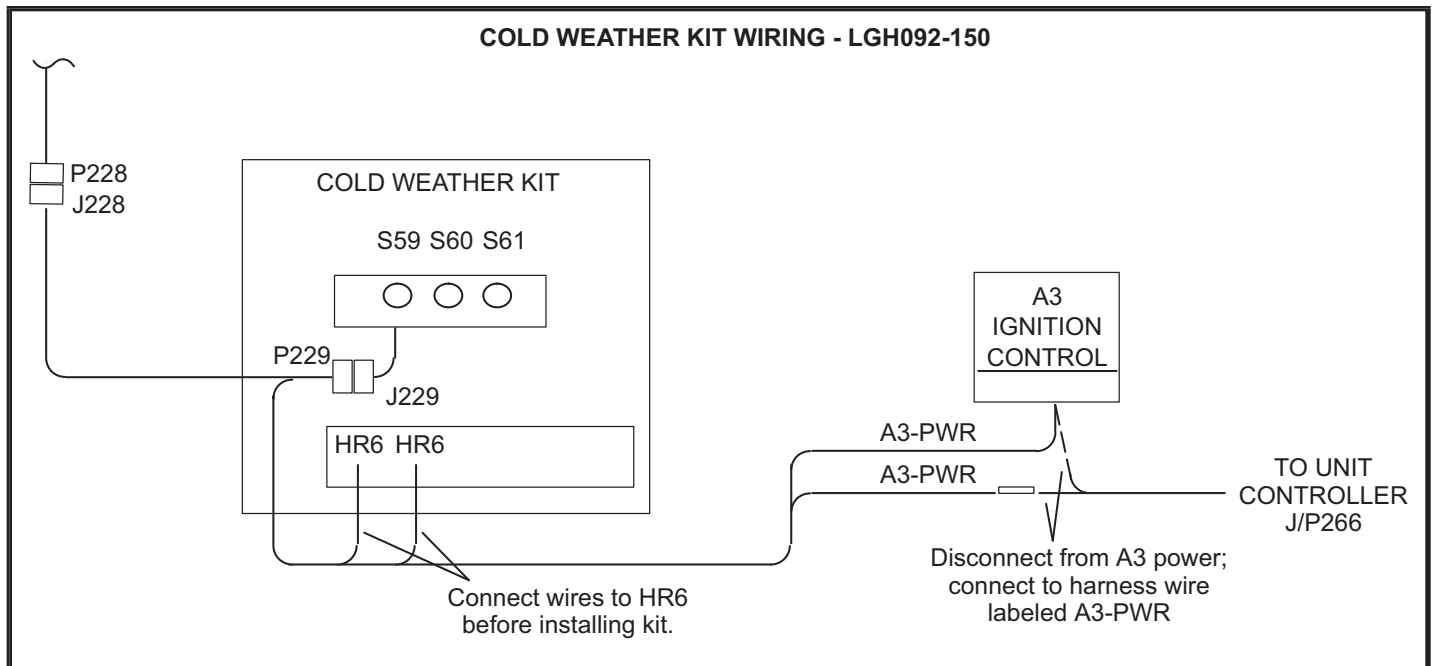

FIGURE 1
- 2 - Locate the kit harness labeled 604954-01 kit harness. Remove cold weather kit cover and connect wires labeled HR6 to the cold weather assembly. See FIGURE 1. Replace cold weather kit cover. Discard harness labeled 604956-01 provided in kit
- 4 - Route the remaining harness wires as shown in FIGURE 2. Make wire connections as shown in FIGURE 1.